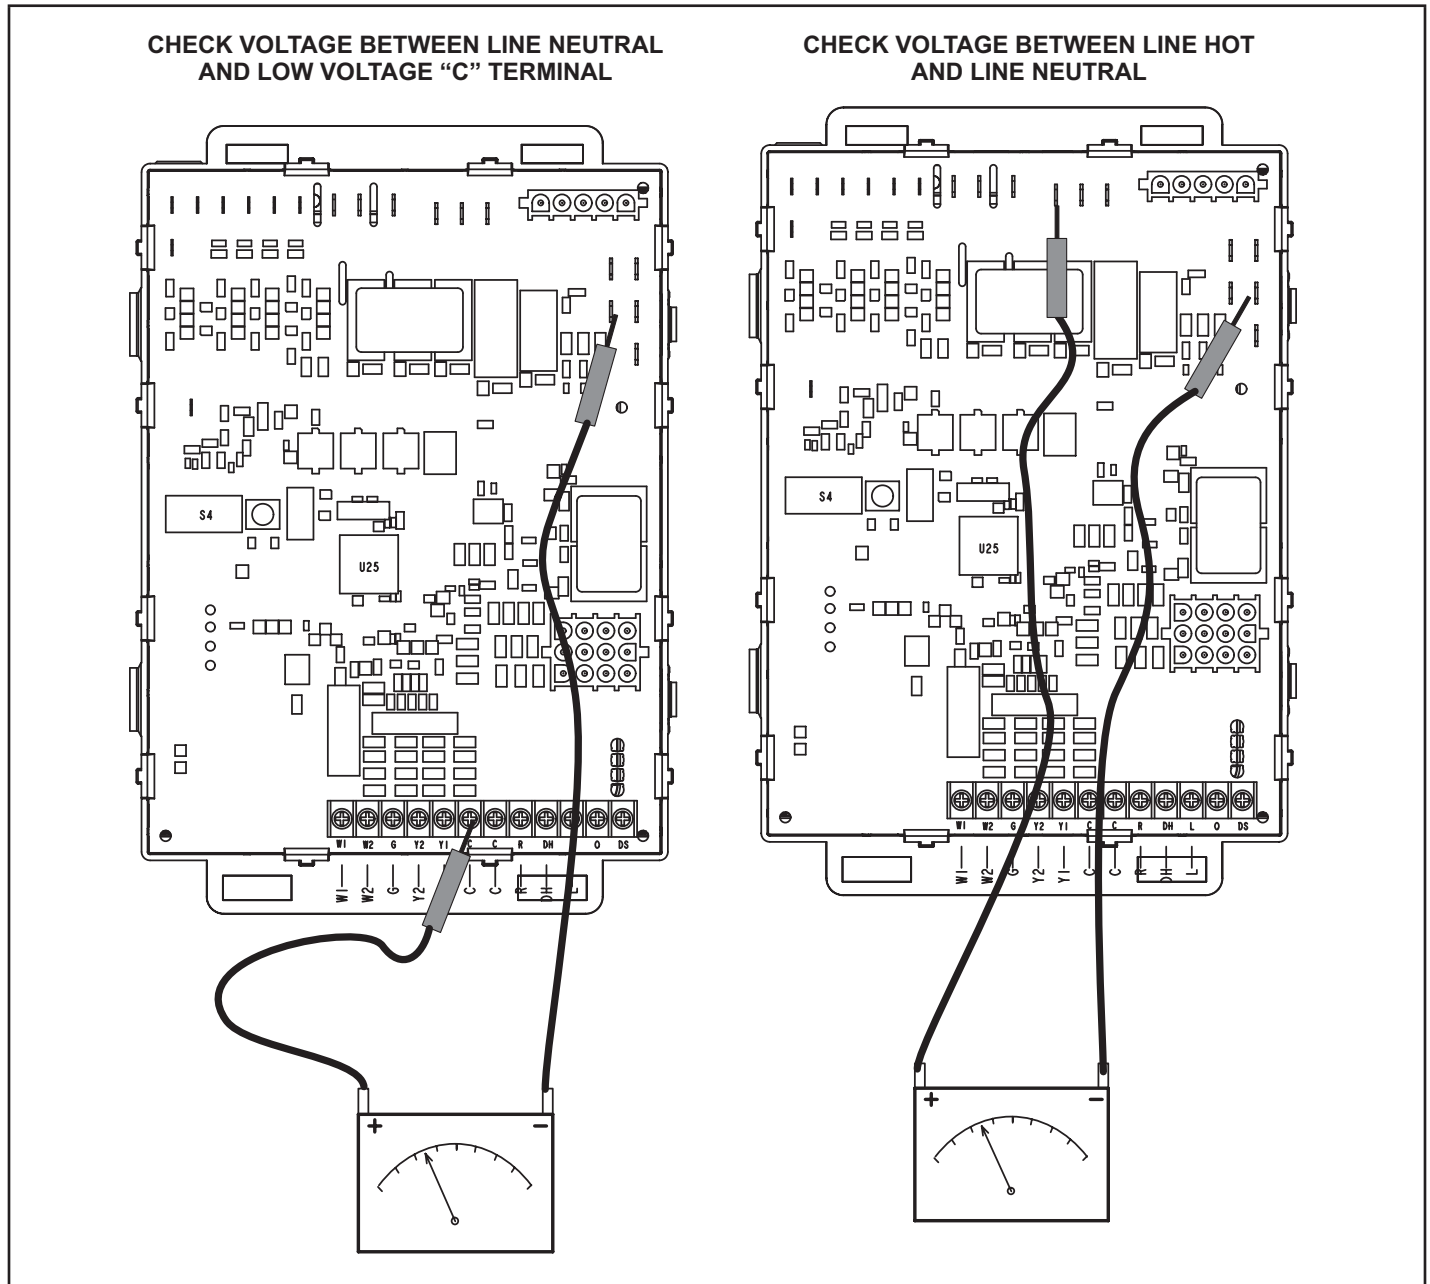

FIGURE 55
- 1 - Measure the AC voltage between Line Neutral (spade terminals) and "C" terminal (low voltage terminal block) on the integrated control. See FIGURE 55. A wide variation in the voltage between Line Neutral and "C" as a function of load indicates a poor or partial ground. Compare the readings to the table below. If the readings exceed the maximum shown in TABLE 25, make repairs before operating the furnace
- 2 - In addition, measure the AC voltage from Line Hot to Line Neutral (spade terminals) on the integrated control. See FIGURE 55. This voltage should be in the range of 97 to 132 Vac.